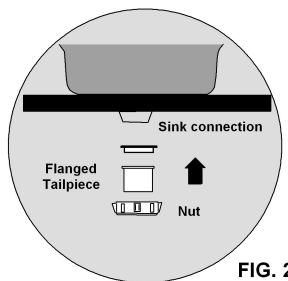

FIG. 2
2. Reuse gasket from under the sink connection by mounting on the flanged tailpiece part of ET113-002. (See Fig. 2)
3. Using provided nut, connect flanged tailpiece under the sink. (See Fig. 2)